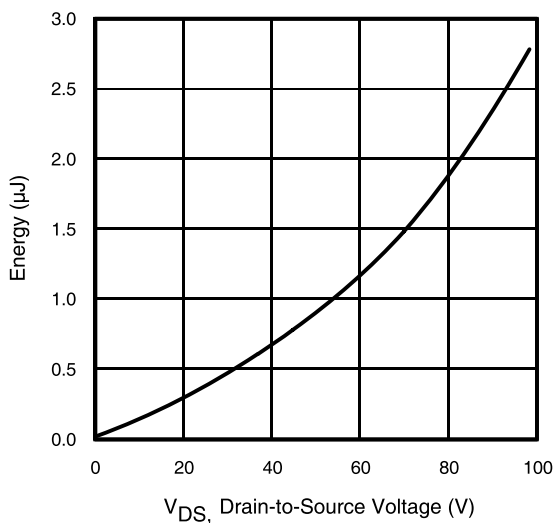

Fig 11. Typical C_{OSS} Stored Energy
| C _{oss eff. (ER)} | Effective Output Capacitance (Energy Related) | — | 570 | — | | V _{GS} = 0V, V _{DS} = 0V to 80V [Ⓢ] , See Fig. 11 |